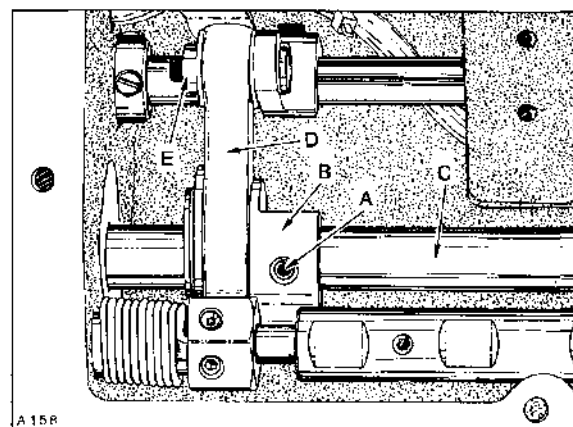
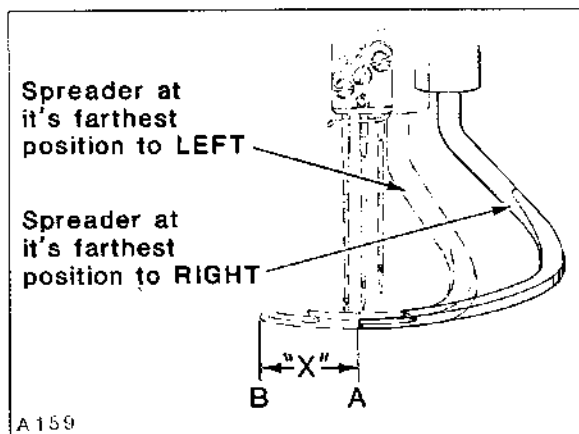

Fig. 28
Fig. 29
While rotating handwheel in operating direction, spreader should be **TIMED** so it begins to move from extreme left position to the right as needle bar descends $1/16$ inch (1.6mm) from TOP of stroke. Adjustment can be made by removing top cover, loosen two screws (A, Fig. 28) in hub of spreader drive eccentric (B), advance or retard eccentric on shaft (C) as required. When proper timing is obtained, position eccentric on its shaft (left to right) so as to ensure that spreader connecting rod (D) has **MAXIMUM** and **CENTRALIZED SHAKE** (left to right) while tightening screws (A) securely.
Spreader travel ("X", Fig. 29) is measured by placing a scale between the two extreme spreader arc travel points (not considering the arc), as shown between points (A and B). See chart for specified dimensions. Adjustment can be made by loosening nut (E, Fig. 28), move connecting rod (D) upward to shorten spreader travel or downward to lengthen spreader travel. After specified length of travel is obtained, tighten nut (E) securely.